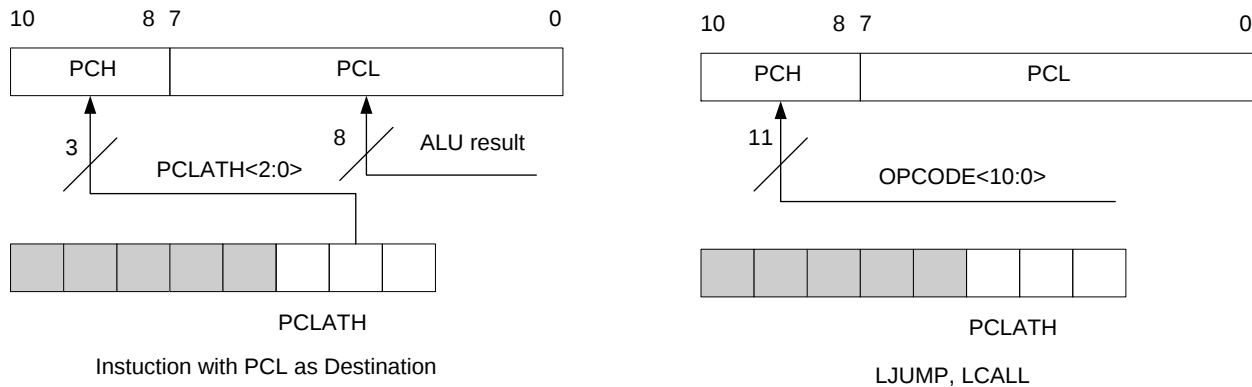

Figure 12-3 Loading of PC in different situations
The Program Counter (PC) is 11 bits wide. The low byte comes from the PCL register, which is a readable and writable register. The high byte PC[10:8] is not directly readable or writable and comes from PCLATH. On any Reset, PC clears. **Figure 12-3** shows the two situations for the loading of the PC.